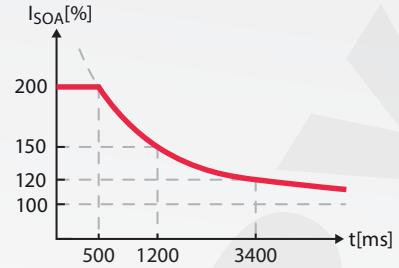

Fig. 16. Short-term current overload capability.
- An I^2t protection set as a function of I_{SOA} , thereby allowing short-term overloads (see Fig. 16).